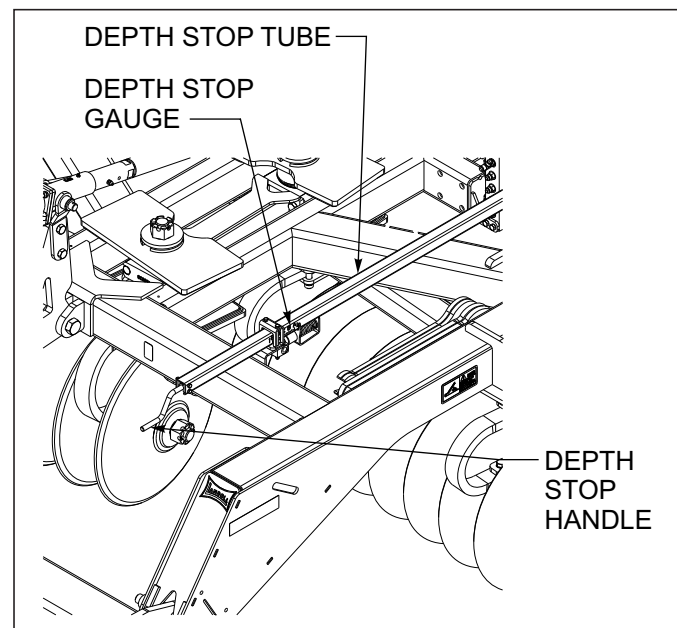

Figure 4-12: Depth Stop Adjustment (Manual)
1. Adjust the depth stop by turning the handle in (clockwise) to increase operating depth (**See Figure 4-12.**) Turn the handle out (counter-clockwise) to decrease operating depth. One turn will equal approximately 3/16" adjustment in depth.